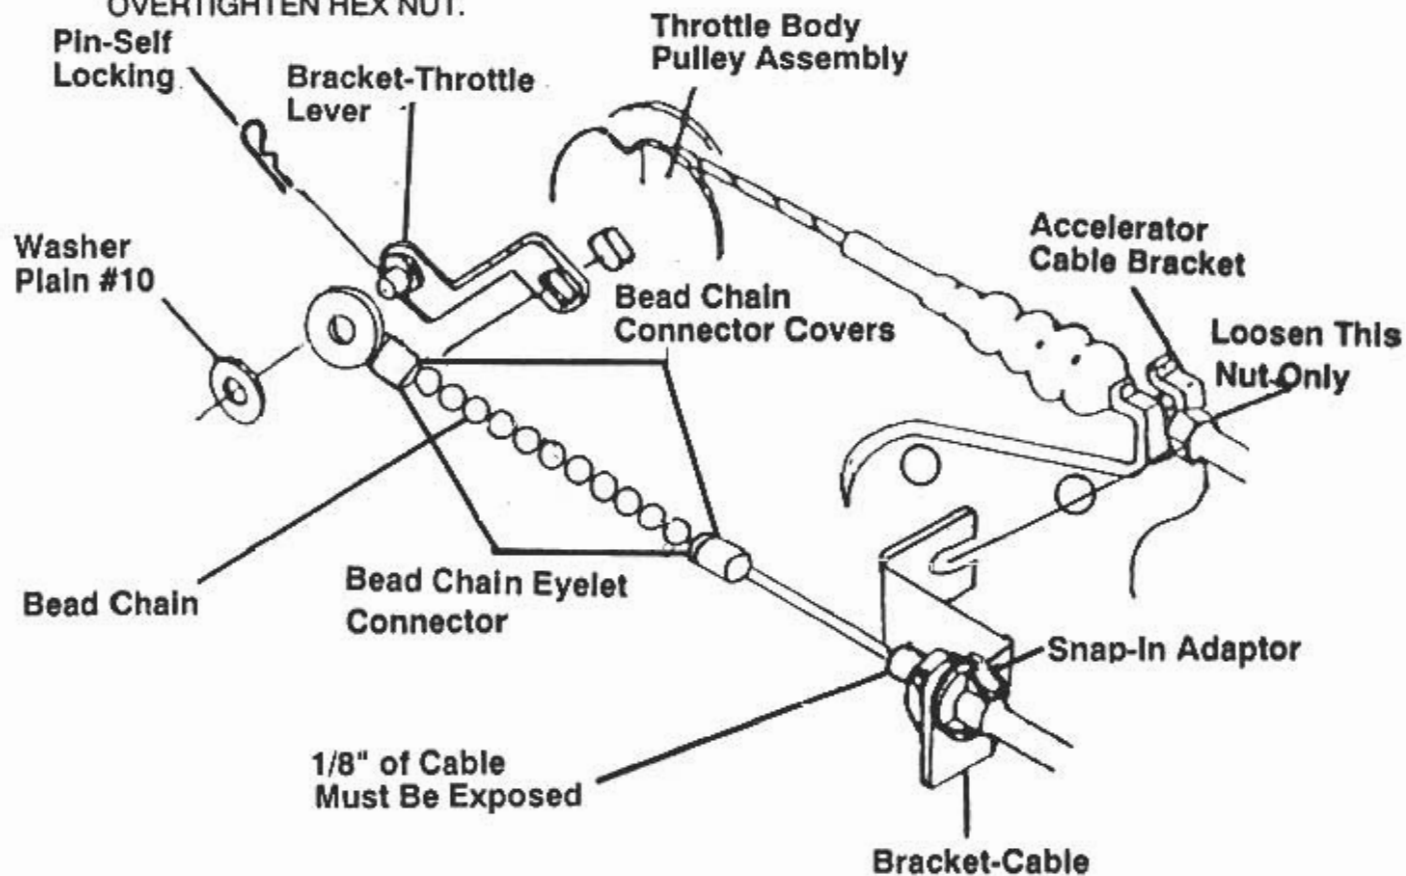

Figure 1
- 1) Remove the throttle shaft nut and lock washer from the throttle shaft. Install the **Bracket-Throttle Lever** on the throttle shaft. Reinstall the lock washer and hex nut, and torque the nut to 60-72 In/Lbs (5-6 Ft./Lbs), See **Figure 1**.
- 2) Loosen the accelerator cable bracket jam nut. Loosen only the nut shown in **Figure 1**.
- 7) After the threads have been formed thread the **Snap-In Adaptor** onto the **Cruise Control Module Cable**, and snap into the **Bracket-Cable** as shown in **Figure 1**.
NOTE: ENSURE THAT AT LEAST 1/8" OF THE CRUISE CONTROL MODULE CABLE IS EXPOSED PAST THE SNAP-IN ADAPTOR, SEE FIGURE 1.
- 8) Connect the **Bead Chain Eyelet Connector**, to the **Bead Chain** with the **Bead Chain Connector Cover** in place. Install **Bead Chain Eyelet Connector** with **Bead Chain, Washer-#10 Plain** on the **Bracket-Throttle lever**, and secure in place with **Pin-Self Locking** as shown in **Figure 1**.
- 9) Connect **Bead Chain** with **Bead Chain Connector (Double Ended)**, to the **Cruise Control Module Cable**, with no slack in the **Bead Chain**, and install a **Bead Chain Connector Cover** as shown in **Figure 1**.